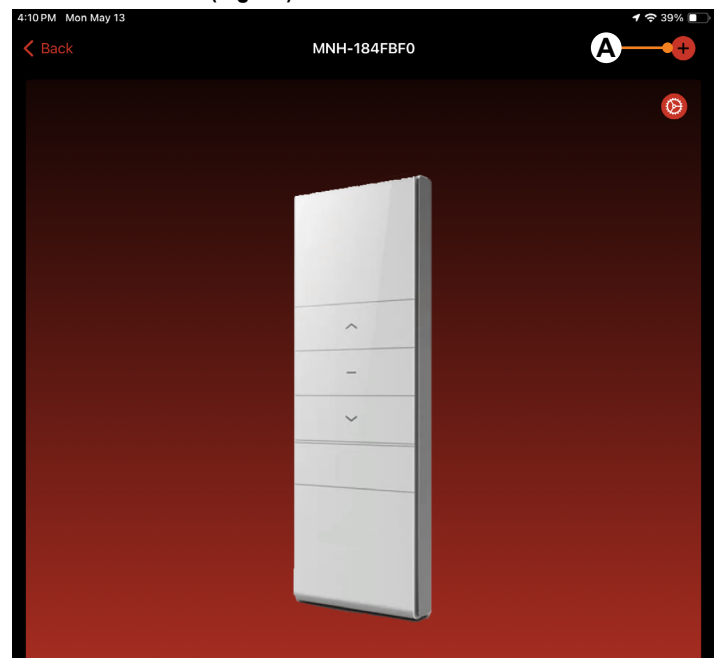
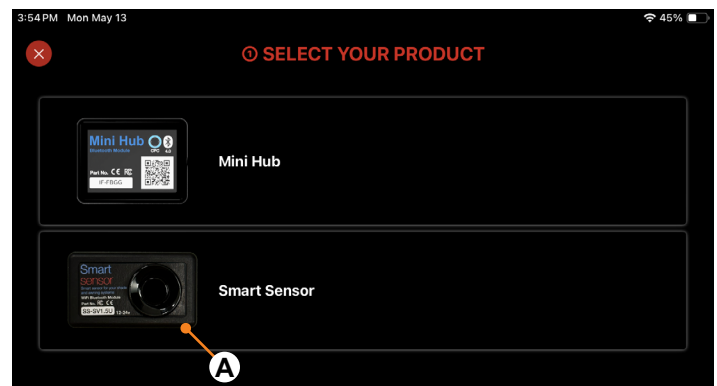

Fig.87
Fig.88
17. Press “Done” (Fig. 86D). The app will route to the Remote Control Home page (Fig. 87). From the remote control home page, press the “+” button in the upper right hand corner (Fig. 83A) to navigate to the “Select Your Product” screen (Fig. 88).